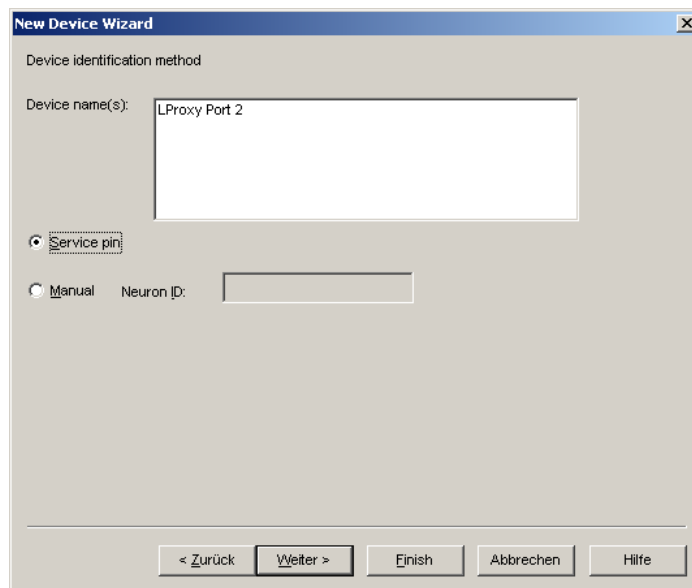

Figure 73: Use Service Pin.
6. Check Service Pin as the device identification method as shown in Figure 73 and click **Next**.